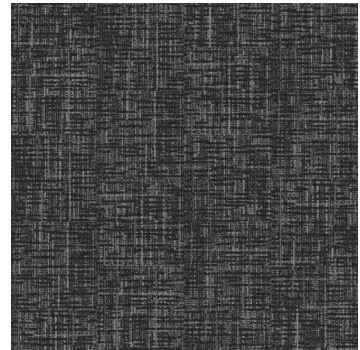

FIGURE 4-3.5 Product preview data
13. Find color **Slate 103335** as shown in Figure 4-3.5; click here to see more details.